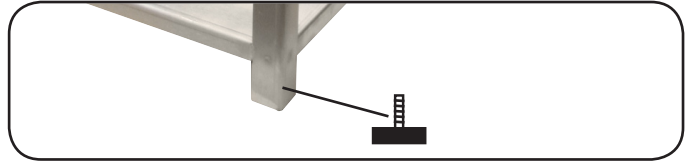

figure 1
1. Place system where easily accessible for service. Screw threaded feet into female threads on bottom of each stand leg to level the unit. **(Fig. 1)**